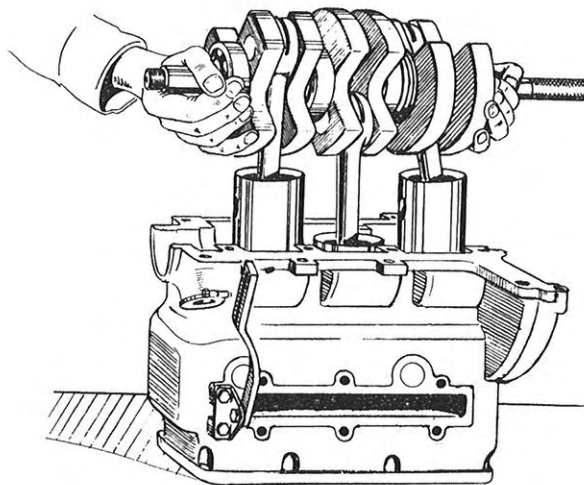

Fig. 11. Lifting out or fitting of crankshaft
16. Lift out crankshaft and pistons. To facilitate lifting out the crankshaft, insert clutch disk centering tool, Saab 93-121, in the rear end of the crankshaft. It may also be helpful to screw tool 93-107 onto the other end of the crankshaft, see Fig. 11.
3. Fit tool 93-107 in front end of crankshaft and insert centring tool 93-121 into crankshaft bushing. Oil pistons and cylinder walls and lower crankshaft and pistons into engine block, see Fig. 11. Be careful not to damage the piston rings.